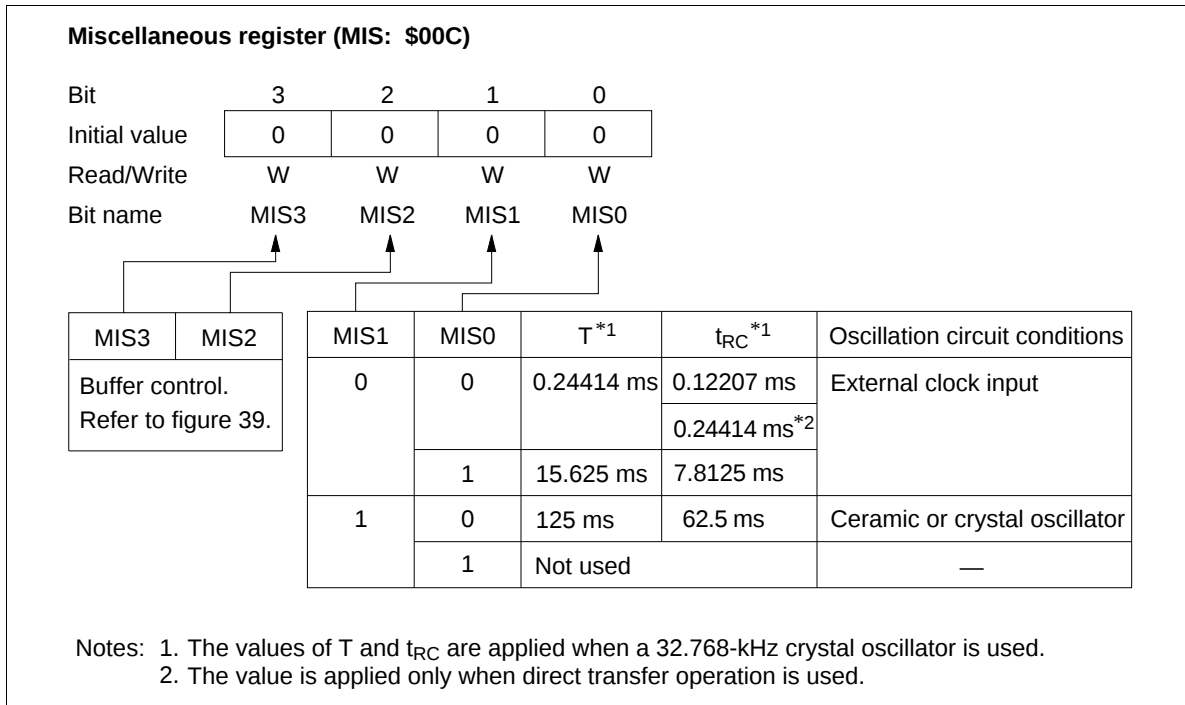

Figure 18 Miscellaneous Register (MIS)
Interrupt Frame: In watch and subactive modes, ϕ_{CLK} is applied to timer A and the $\overline{INT}_0$ and $\overline{WU}_0 - \overline{WU}_7$ circuits. Prescaler W and timer A operate as the time-base and generate the timing clock for the interrupt frame. Three interrupt frame lengths (T) can be selected by setting the miscellaneous register (MIS: \$00C) (figure 18).